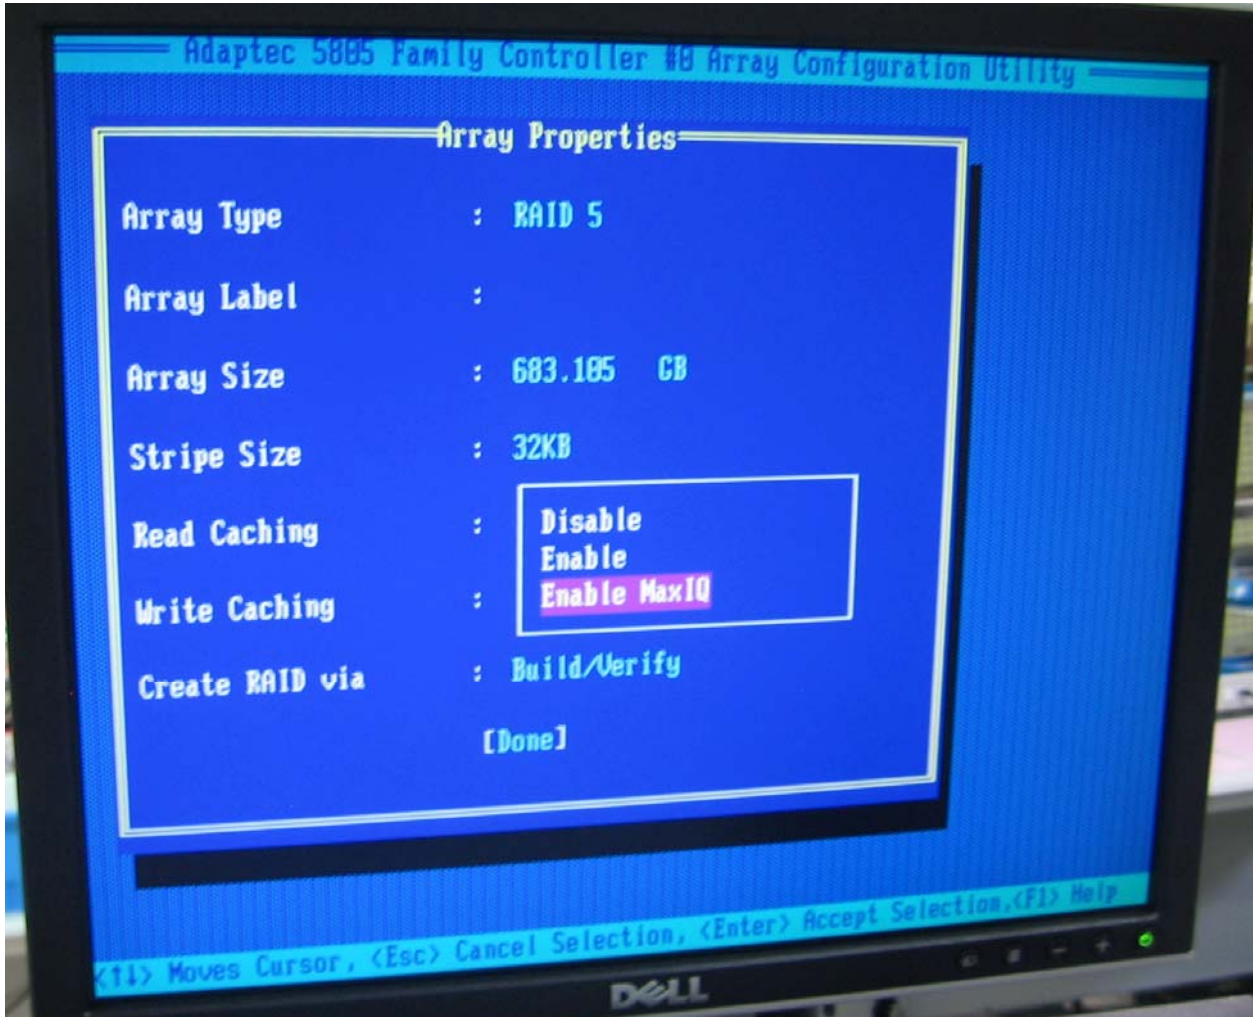

Figure 7-12 Read Caching
14. In **Read Caching** scroll down and select **Enable Max ID**. (Figure 7-12).